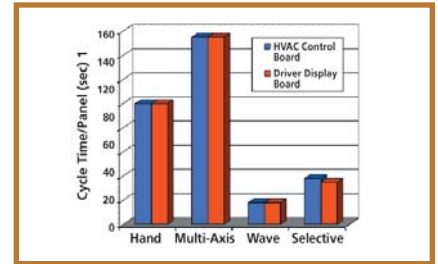

FIGURE 3: ... improve cycle times ...
- Faster cycle times compared to hand and multi-axis soldering (**Figure 3**).